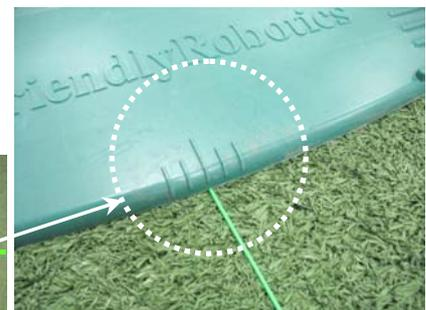

Figure 1.22 -
- Close the cover of the Base Station; confirm it is locked well in its place (Figure 1.22).